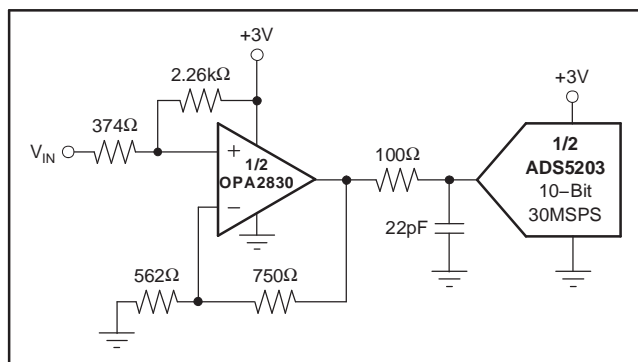
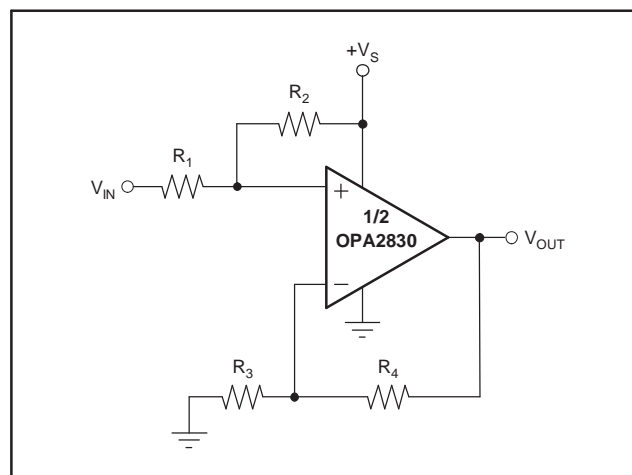

Figure 73. DC-Coupled, +3V ADC Driver
Figure 74. DC Level-Shifting
The ADC interface of Figure 73 shows a DC-coupled, single-supply ADC driver circuit. Many systems are now requiring +3V to +5V supply capability of both the ADC and its driver. The OPA2830 provides excellent performance in this demanding application. Its large input and output voltage ranges and low distortion support converters such as the ADS5203 shown in the figure on page 1. The input level-shifting circuitry was designed so that V_{IN} can be between 0V and 0.5V, while delivering an output voltage of 1V to 2V for the ADS5203.
Figure 74 shows the general form of Figure 73 as a DC-coupled noninverting amplifier that level-shifts the input up to accommodate the desired output voltage range. Given the desired signal gain (G), and the amount V_{OUT} needs to be shifted up (ΔV_{OUT}) when V_{IN} is at the center of its range, the following equations give the resistor values that produce the desired performance. Assume that R_4 is between 200Ω and 1.5kΩ.
The circuit of Figure 73 is a good example of this type of application. It was designed to take V_{IN} between 0V and 0.5V and produce V_{OUT} between 1V and 2V when using a +3V supply. This means $G = 2.00$, and $\Delta V_{OUT} = 1.50V - G \cdot 0.25V = 1.00V$. Plugging these values into the above equations (with $R_4 = 750\Omega$) gives: $NG = 2.33$, $R_1 = 375\Omega$, $R_2 = 2.25k\Omega$, and $R_3 = 563\Omega$. The resistors were changed to the nearest standard values for the circuit of Figure 73.